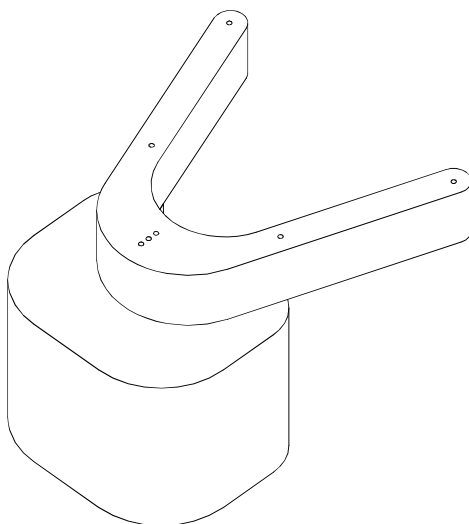
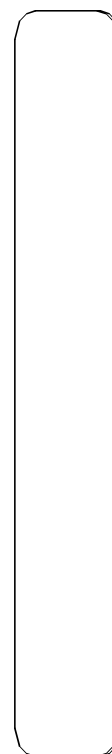

Figure 7-2
Figure 7-3
3. Place the centering tool (P/N 6107900200 - Figure 7-2) on the chin rest and the sensor calibration tool (P/N 5607900800 - Figure 7-3) in front of the sensor fixing it with tape.